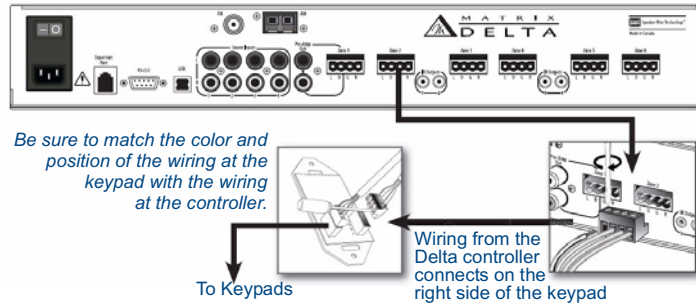

FIG. 3 Connect the Keypads to Delta
Looking at the rear of the keypad with the connectors at the bottom, you will see (2) plug type 4 pin receptacles. The connector on the right side terminates the 4 conductor wire from the Delta controller and the connector on the left side connects the audio to the speakers in the zone (FIG. 3).